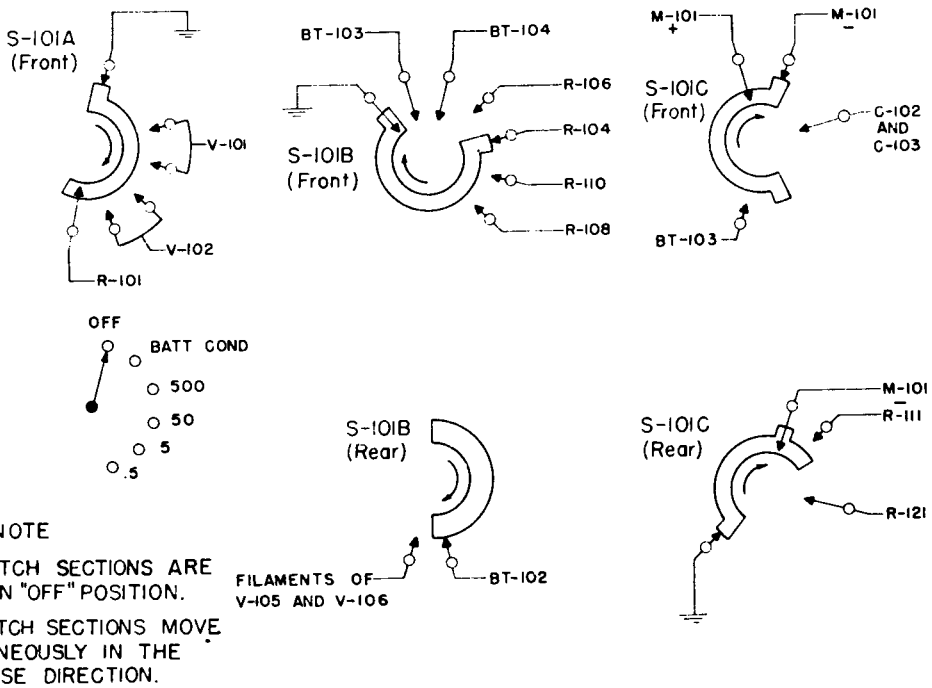

Fig. 2-6 Range Switch Circuits
d. RANGE SWITCH CIRCUITS. (See Fig. 2-6)--The functions performed by each of the five range switch S-101 sections are as follows: